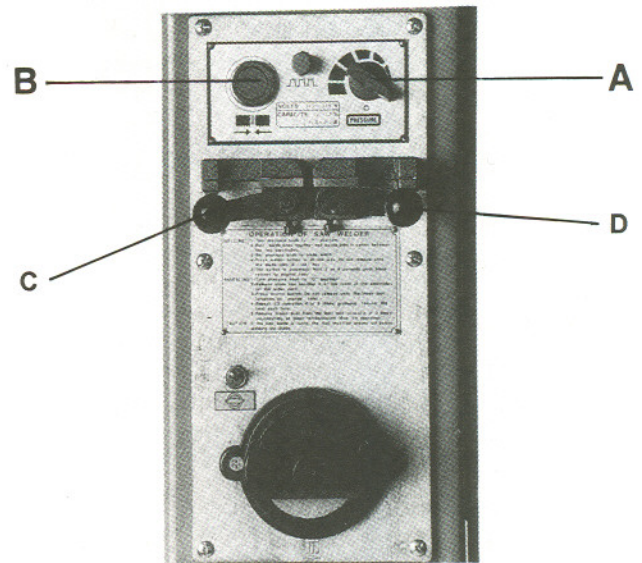

Fig. 14
1. Turn pressure switch (A, Figure 14) to the zero position.
2. Join blade ends together and locate union in the center between two electrodes. Lock blade in position by lifting levers (C and D, Fig. 14).
3. Set pressure switch (A) to blade width according to the scale.
4. Press weld button (B). Do not release until the weld has been completed.